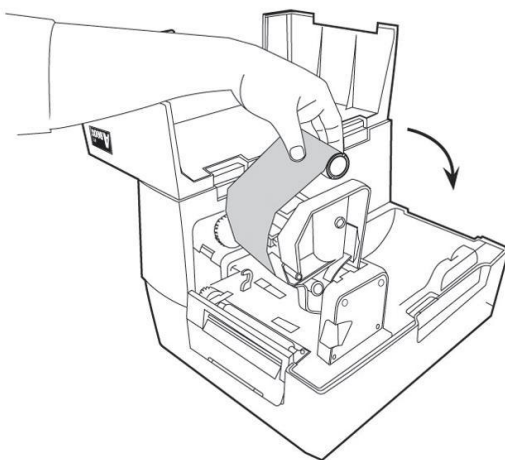
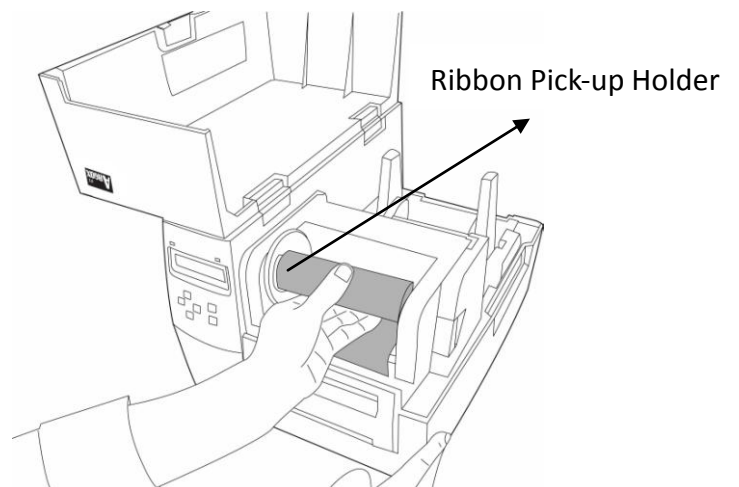

Figure 7-1
Figure 7-2
6. Put the print head module down and insert the bare core into the pick-up holder. (Figure 7-1) First snap in the right side and then left side. (Figure 7-2)